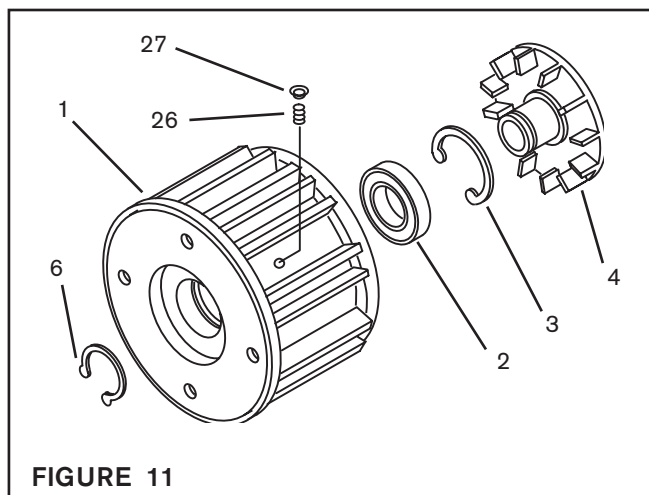

FIGURE 11
NOTE: If an Input Unit is installed on the FMCBE, it must be removed before servicing the FMCBE. Remove Cap Screws and the Plug (Item 27) and loosen the Set Screw (Item 26) to release the FMCBE from the Input Unit (See Figure 11).
2. Remove the Plug (Item 27) and Set Screw (Item 26) (See Figure 11).
3. Remove the Retaining Ring (Item 6) and press the drive Disc (Item 4) out of Housing (Item 1) (See Figure 11).
4. Remove the Retaining Ring (Item 3) (See Figure 11).
5. Fully supporting the Housing (Item 1), press the old Ball Bearing (Item 2) out of the Housing (See Figure 11).
6. Clean the bearing bore of the Housing (Item 1) with fresh safety solvent, making sure all old Loctite® residue is removed (See Figure 11).
7. Apply an adequate amount of Loctite® 680 to evenly coat the outer race of the new Ball Bearing (Item 2) (See Figure 11).
9. Supporting the Housing (Item 1) and pressing on the outer race of the new Ball Bearing (Item 2), press the new Ball Bearing into the Housing (See Figure 11).
10. Reinstall the Retaining Ring (Item 3) (See Figure 11).
11. Support the inner race of the new Ball Bearing (Item 2) and press the Drive Disc (Item 4) into the new Ball Bearing (Item 2) and Housing (Item 1) (See Figure 11).
12. Reinstall the Retaining Ring (Item 6) (See Figure 11).